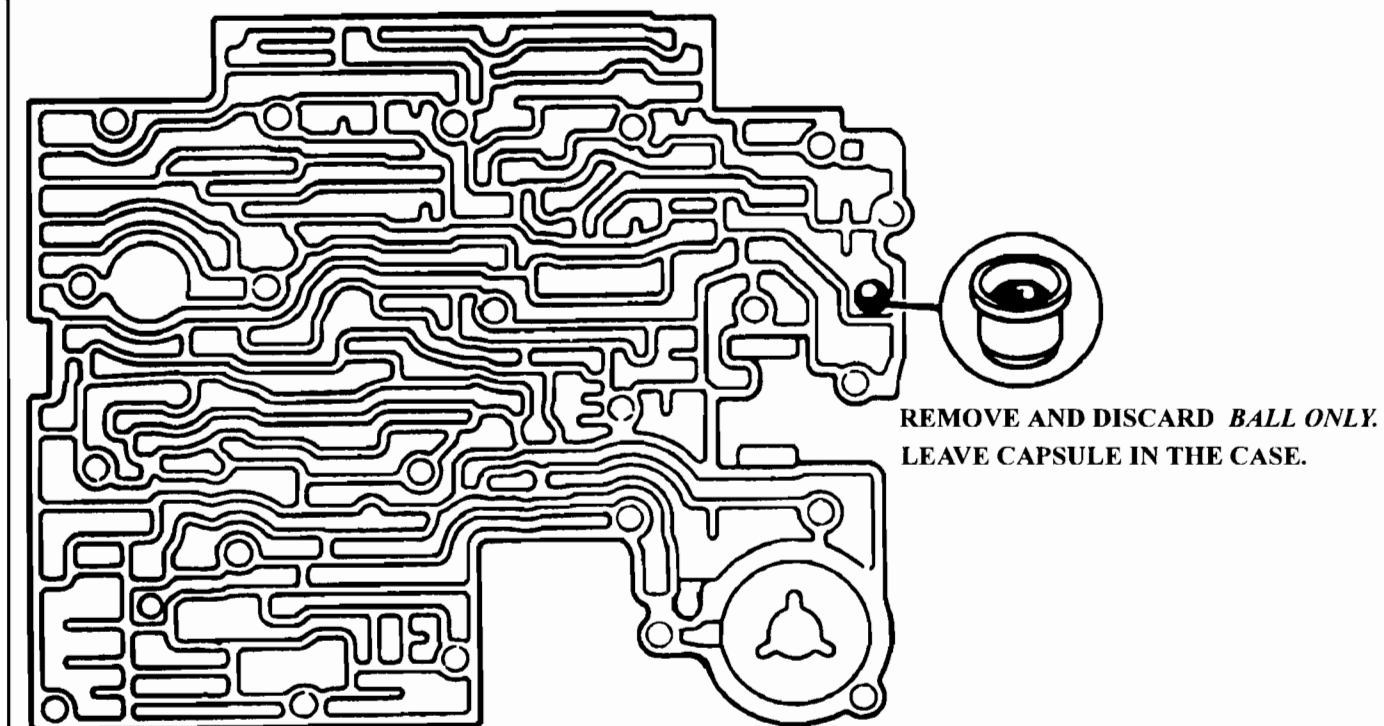

Figure 12
**STEP 2:** Remove the **ball only** from the capsule in the reverse passage at the rear of the case worm track area, as shown in Figure 12. Leave the capsule in the case. This will allow a larger volume of oil to the piston to overcome the leak we have created with the exhaust hole we drilled in the piston. This is now a **feed-bleed** system.